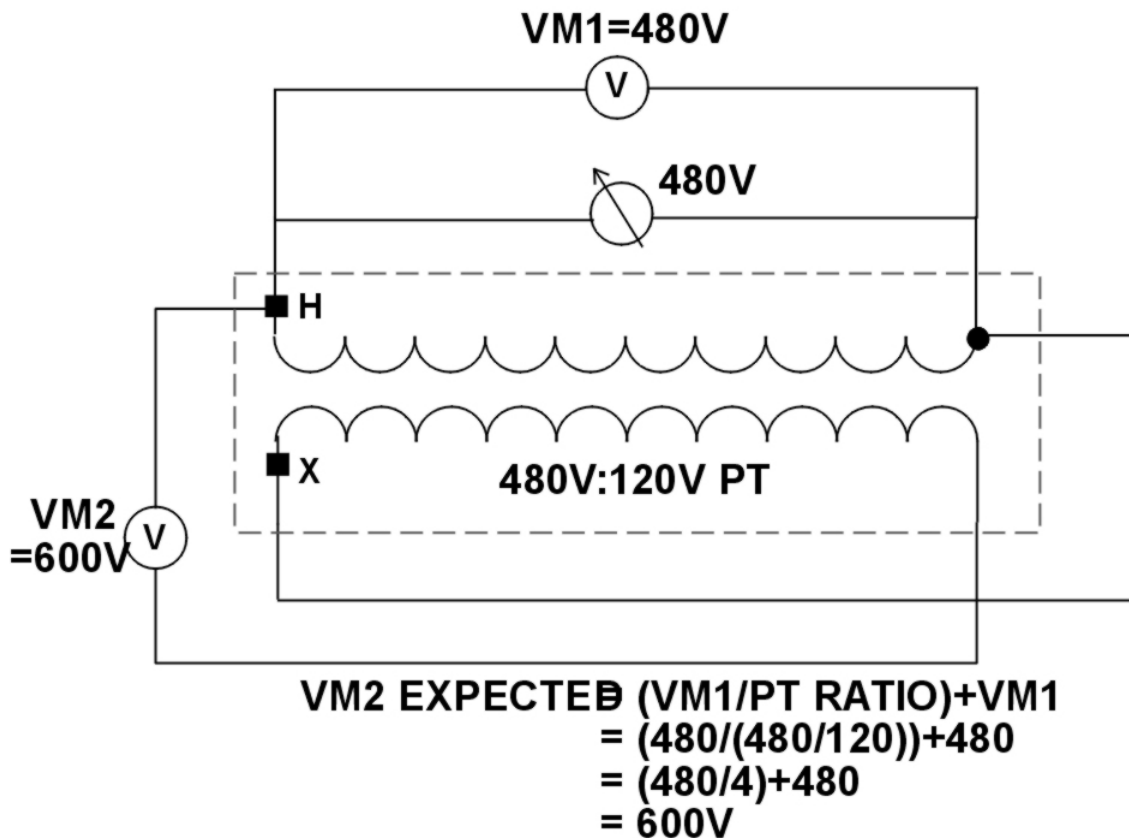

Figure 7
- b. To test polarity using ac voltage; a variac and voltmeter are required. Use the following steps to test for PT polarity using the AC method as shown in Figure 7.